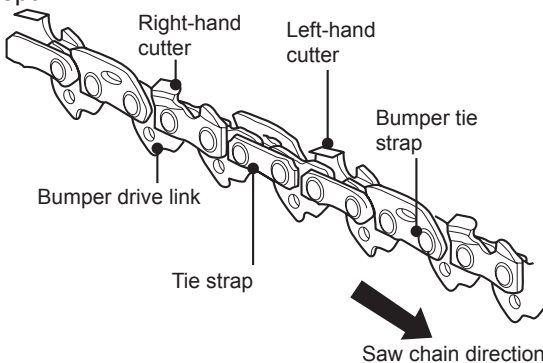

Fig. 42
2. The height difference between the tooth and the ridge is the cutting depth. When sharpening the saw chain (11) you have to consider the following points (Fig. 42).